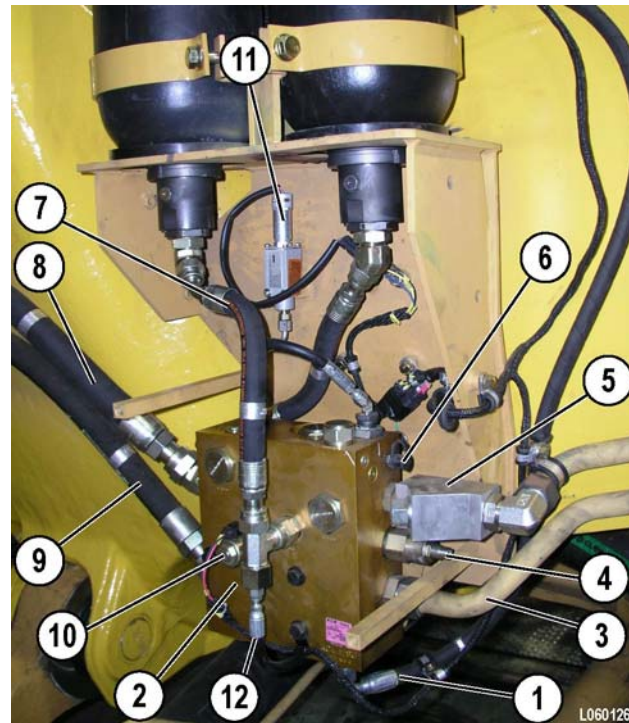

FIGURE 10-1. BLEEDDOWN MANIFOLD
1. Install a 0-34 474 kPa (0-5000 psi) pressure gauge at test port (6, Figure 10-1) on the bleed-down manifold.
4. Disconnect the steering supply and return lines from the bleeddown manifold. The supply hose is connected to check valve (5, Figure 10-1) and return to tank (3) is located directly below the supply.